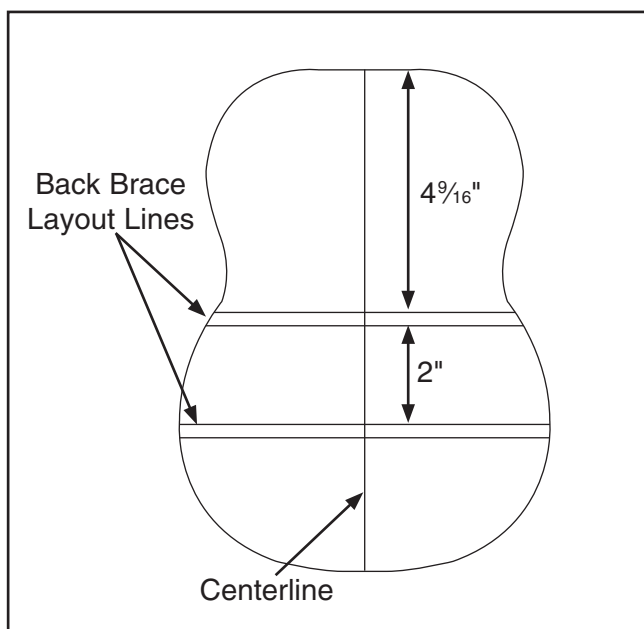

Figure 10. Back brace measurements and centerline.
1. Apply sufficient glue and center the braces on the back in their specified locations (see **Figure 10 on Page 8**).
1. Apply sufficient glue and center the braces on the sound board in their specified locations (see **Figure 10 on Page 8**).
1. Apply sufficient glue and center the bridge plate on the soundboard in its specified location (see **Figure 10 on Page 8**).